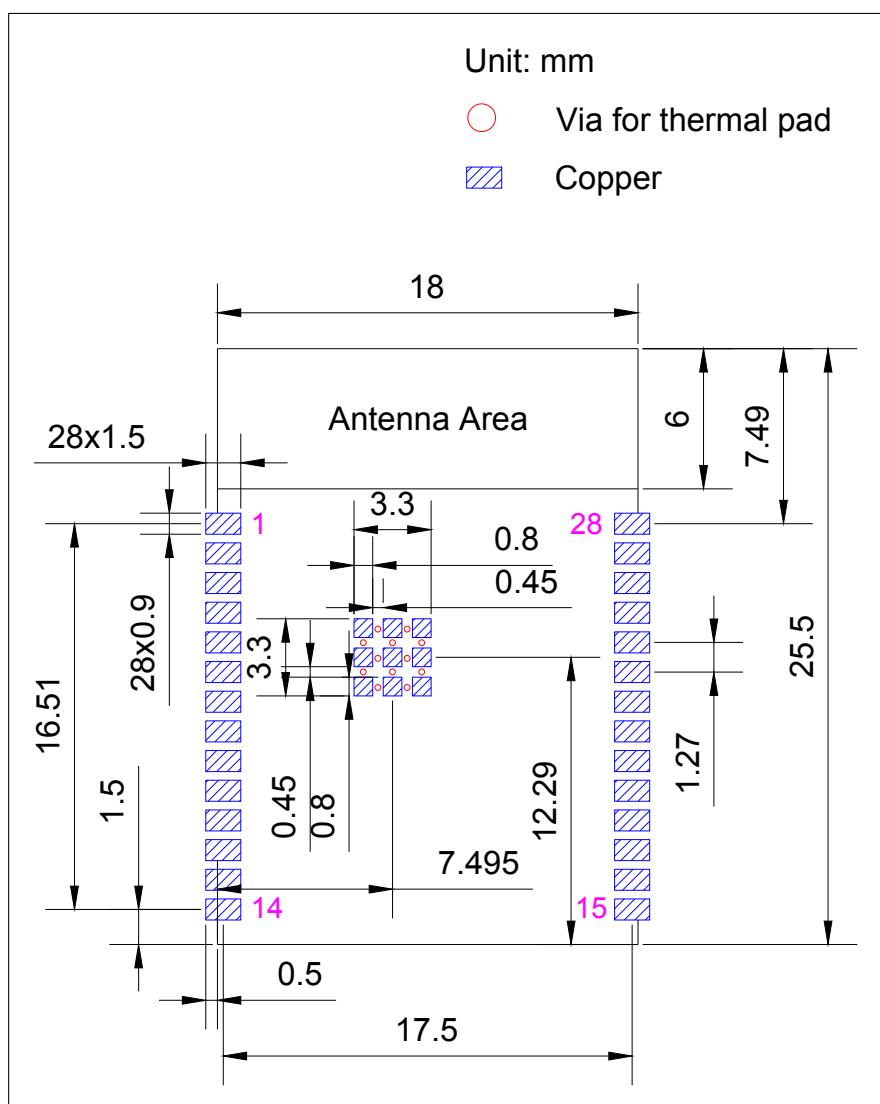
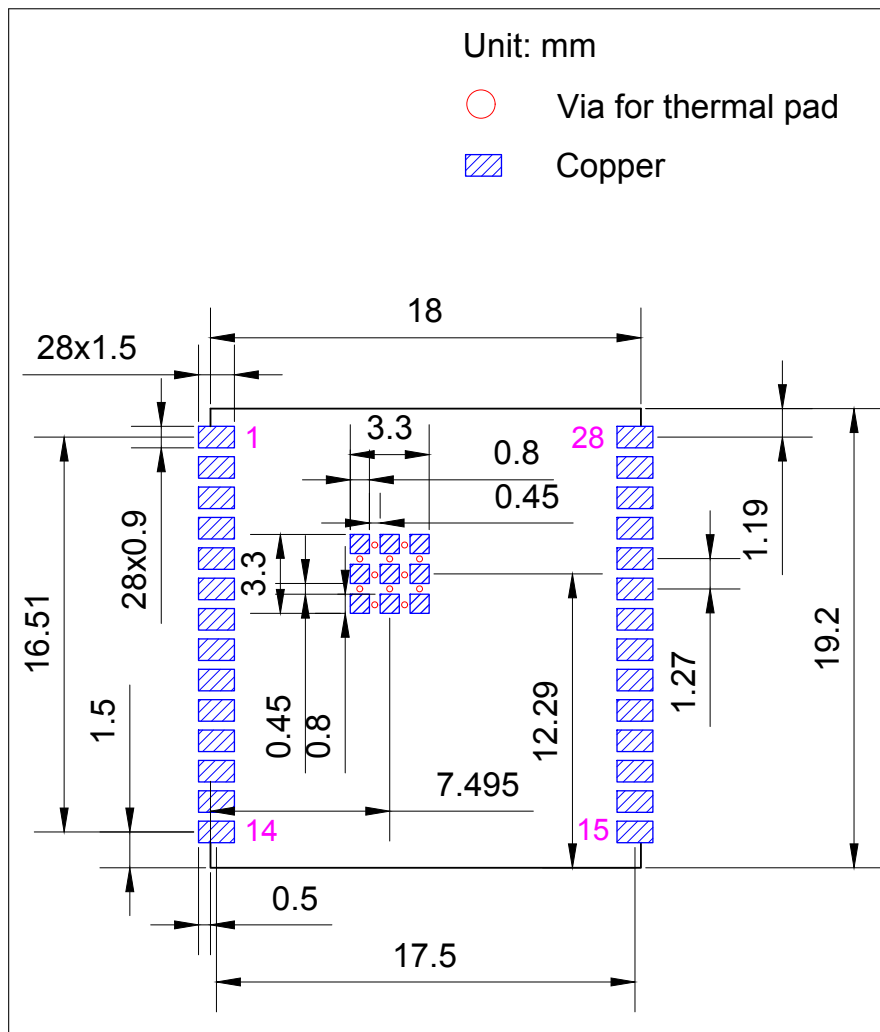

Figure 10: ESP32-C6-WROOM-1 Recommended PCB Land Pattern
Figure 11: ESP32-C6-WROOM-1U Recommended PCB Land Pattern
- Figures for recommended PCB land patterns with all the dimensions needed for PCB design. See Figure 10 ESP32-C6-WROOM-1 Recommended PCB Land Pattern and Figure 11 ESP32-C6-WROOM-1U Recommended PCB Land Pattern.
- Source files of recommended PCB land patterns to measure dimensions not covered in Figure 10 and Figure 11. You can view the source files for ESP32-C6-WROOM-1 and ESP32-C6-WROOM-1U with Autodesk Viewer.